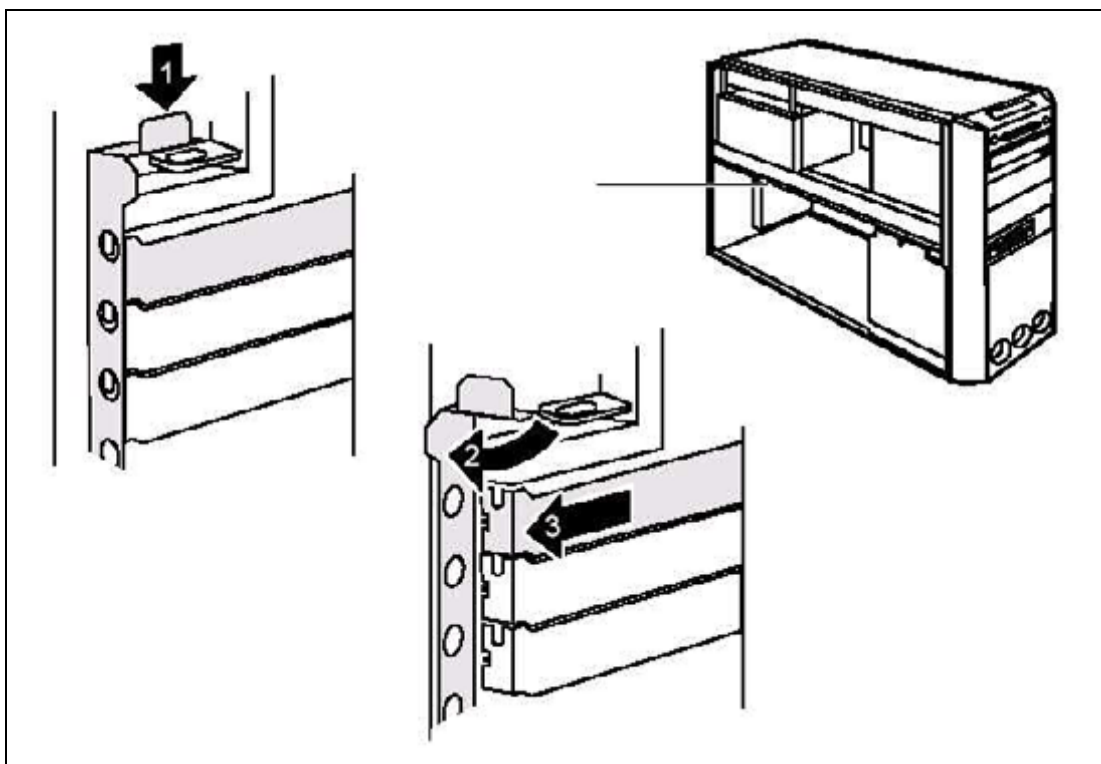

Fig. 43: Replacing a PCI board\_3
7. Press the unlocking mechanism (1/Fig. 43 / p. 68) down and open the locking rail (2/Fig. 43 / p. 68). The word "PRESS" is embossed on the unlocking mechanism.
10. Remove the board from the slot (3/Fig. 43 / p. 68).